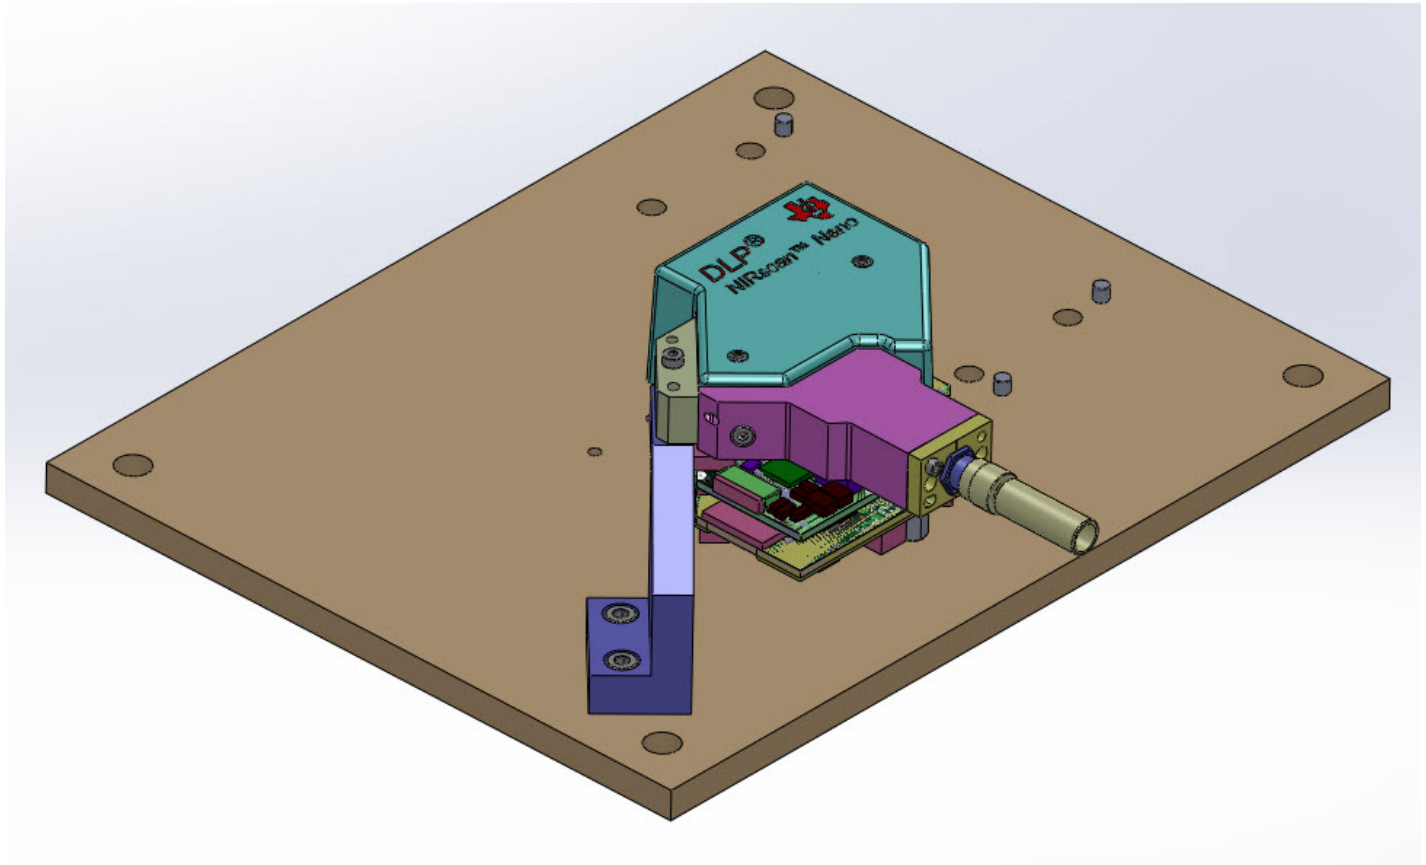

Figure 5 – Slit Alignment Overview
When the parts from Table 2 are assembled as shown in Figure 5, the following slit alignment procedure can commence.
1. Remove the Illumination Lamp module from the Optical Engine (OE).
3. Install the linear end of the fiber with mark into the fiber input module, aligning the mark on the fiber housing to the groove in the illumination module; connect to the (OE) as in Figure 5.